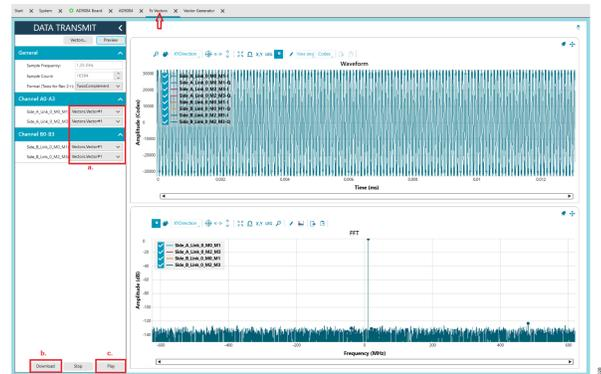

Figure 28. Downloading the Vector to the DACs
4. Return to the **Tx Vectors** view and take the following steps to play the Tx vectors on the DACs (see Figure 28):